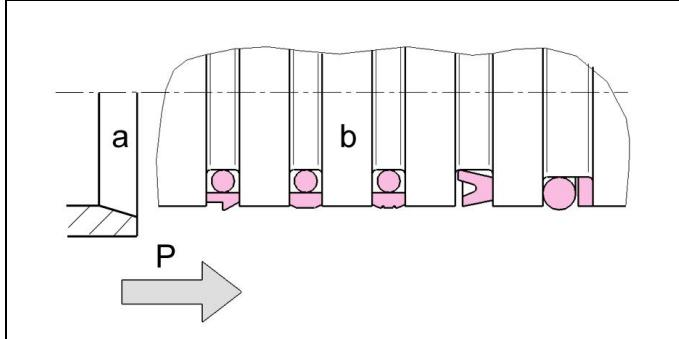

Figure 2: Piston seal with pressure direction
- Attention:** In single-acting applications pay attention to the correct position of the sealing lip to the pressure side (see fig. 2).
- Attention:** In single-acting applications pay attention to the correct position of the sealing lip to the pressure side (see fig. 2). Uniformly push the sealing onto the perimeter.